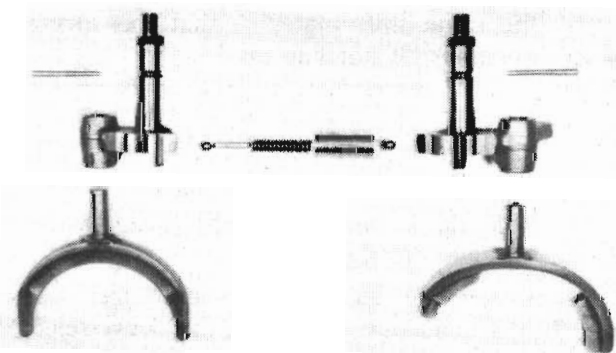

Fig. 17 - Gearshift forks, cams and interlock assembly
(13) Remove the second and third speed gear-shift fork.
(14) Move the second and third speed synchronizer outer sleeve (15) rearwards into second speed position.
(15) Remove the mainshaft assembly through the top of the gear case.
(16) Knock out the reverse idler shaft (46).
(17) Remove the reverse idler (48) and cluster gear (41).
(18) Remove gearshift cams, interlock sleeve, springs and balls from the gear case (refer Fig. 17).
(3) Lubricate the shaft (77) of second and third speed gearshift cam (78) and shaft assembly and replace "O" ring. Install the cam and shaft assembly to the case, pushing the cam against the side of the case so that the interlock sleeve hole is not blocked.
(4) Install the interlock pin (65), spring (64) and second ball (62) using Tool E21C15A. Move the cam and shaft assembly into third gear position, so that the extended detent notch of the cam retains the ball and spring. (Refer Fig. 17).